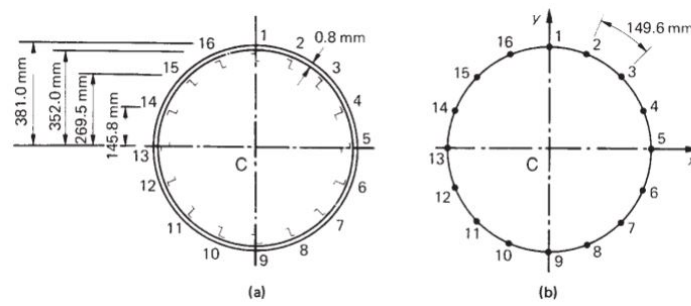

Figure 4
- (b) The fuselage of a light passenger carrying aircraft has the circular cross-section shown in Figure 4. The cross-sectional area of each stringer is 100 mm^2 and the vertical distances given in Figure 4 are to the mid-line of the section wall at the corresponding stringer position. If the fuselage is subjected to a bending moment of 200 kN m applied in the vertical plane of symmetry, at this section, calculate the direct stress distribution.